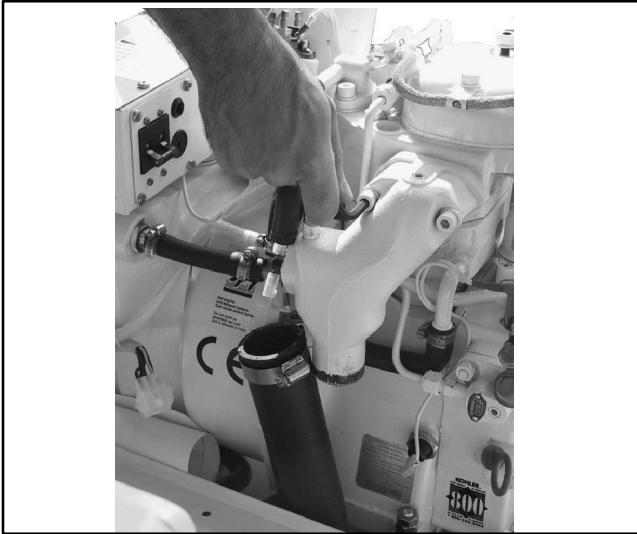

Figure 10-26 Exhaust Elbow (Mixer)
1. Disconnect the water pipe located between the thermostat and the exhaust elbow. See Figure 10-26.